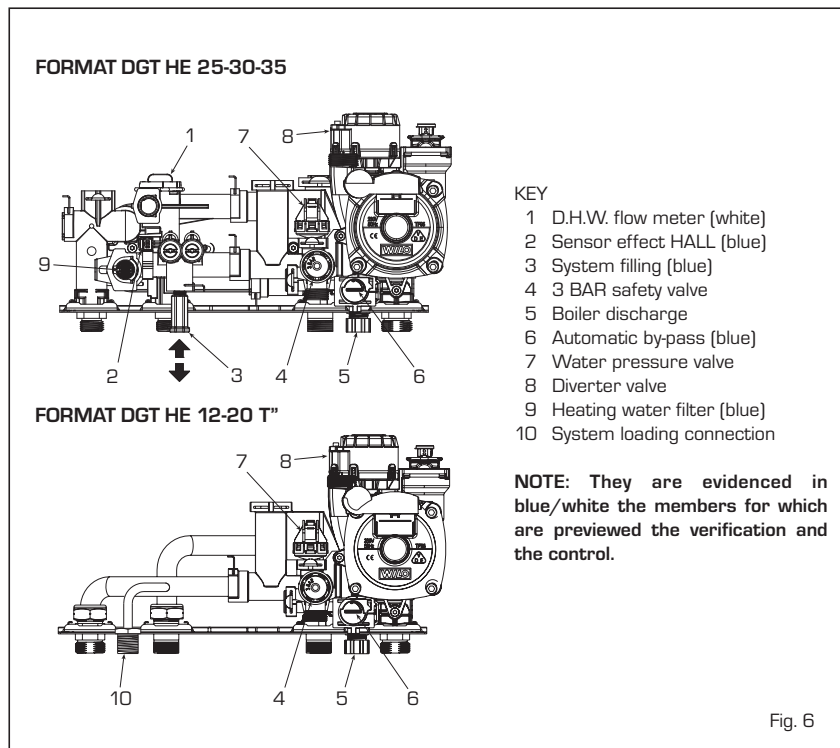

Fig. 6
Filling of the boiler and the system is done by the system filling (3 fig. 6).
and act on the boiler drain (5 fig. 6).
**NB:** In "T" vers. loading is achieved by the appropriate connection (10 fig. 6).